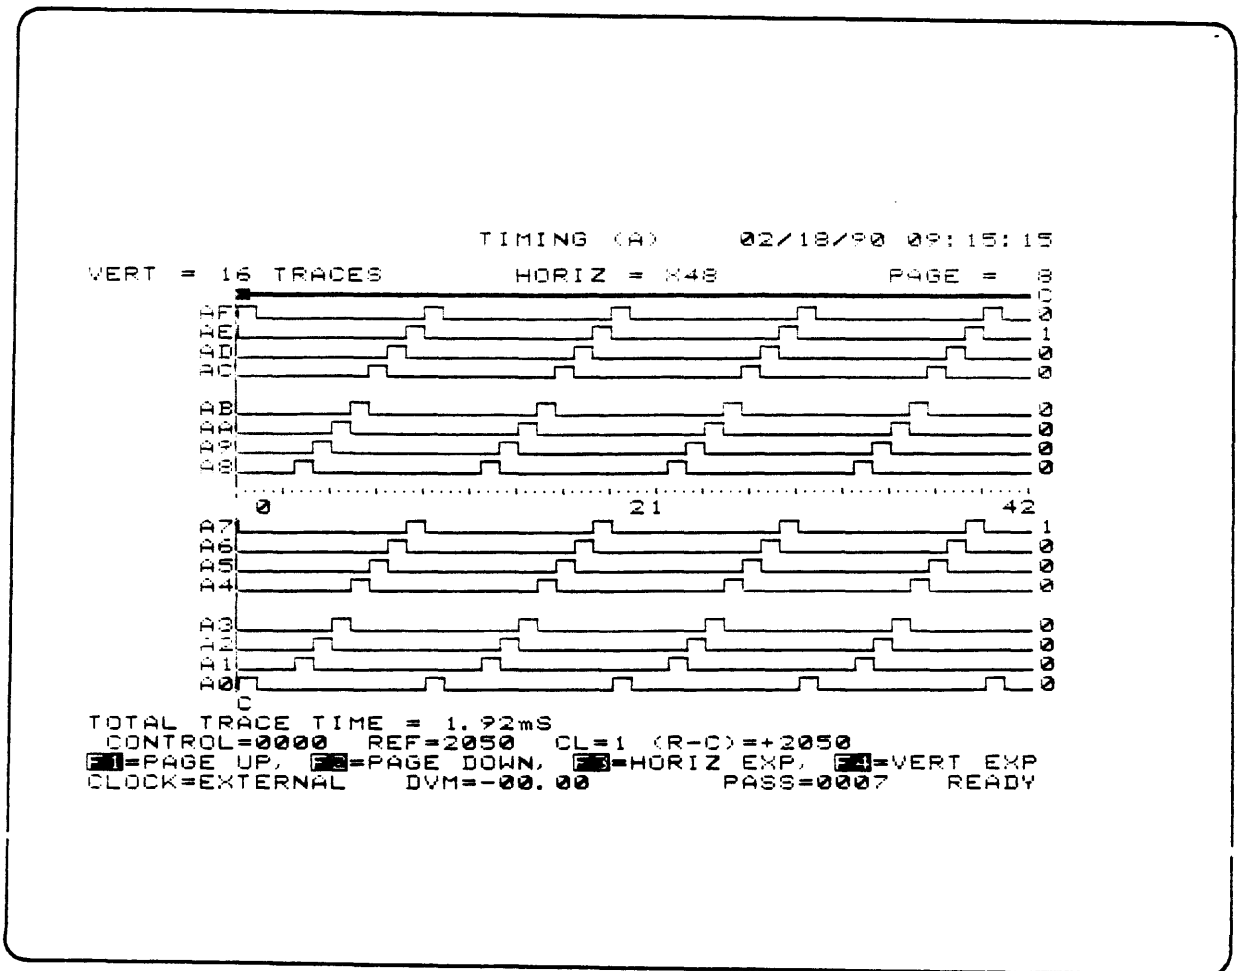

Figure 3-2. Typical Probe Test Recording Using An External Clock
1. Connect the low order bit probe cable to lower front panel socket labeled SECTION A INPUTS (J, K, 7-0). See Figure 3-2 for AJ external clock.